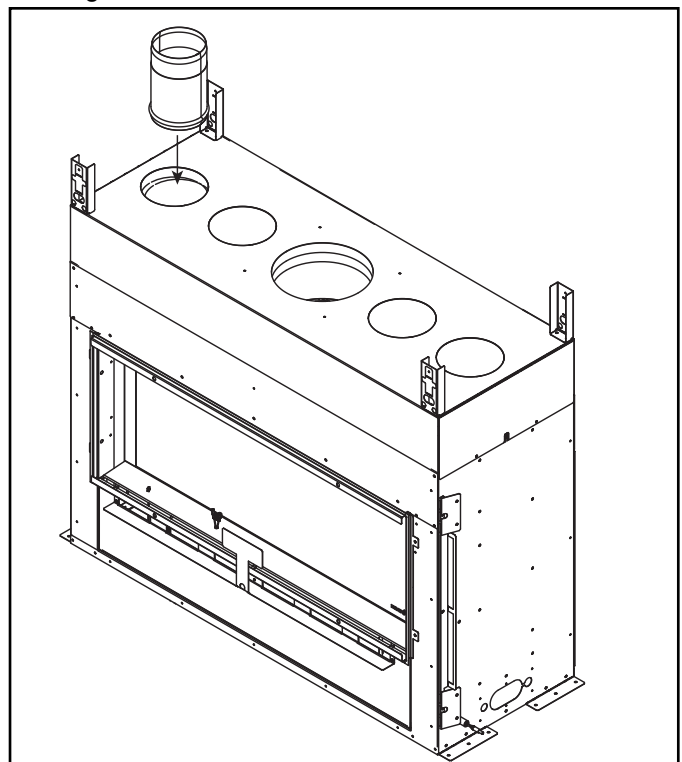

Figure 6.5 Heat-Zone®-Gas Linear Adapter Collar
- Center the duct collar around the exposed hole and attach it to the appliance. See Figure 6.5.
The HZLIN-ADP adapter kit is required for use with the Heat-Zone®-Gas Kit and is necessary when the optional Heat-Zone®-Gas Kit is installed on the MEZZO-C models. See Figure 6.5.